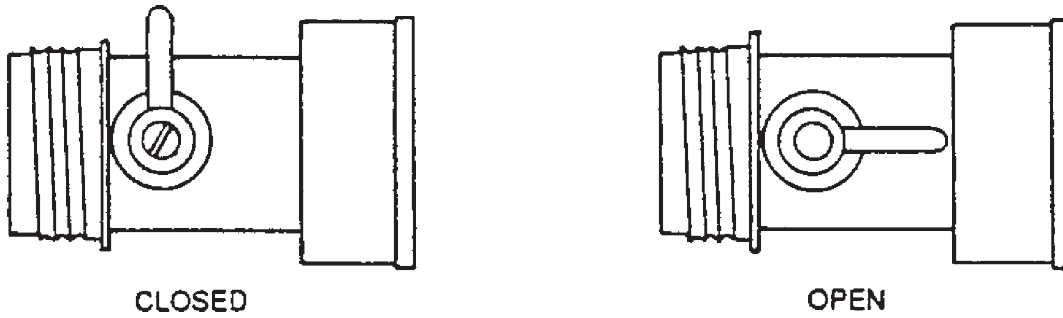

Fig. 5
7. Prime the system by turning on the water inlet valve (See Fig 5). Allow the water to flow until the air is purged from the system